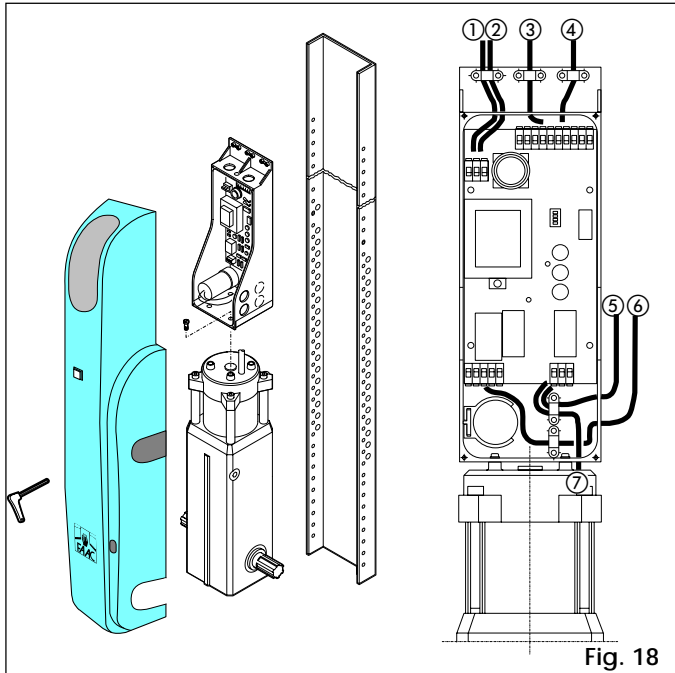

Fig. 18
- With the drive shaft at the bottom (Fig. 18)